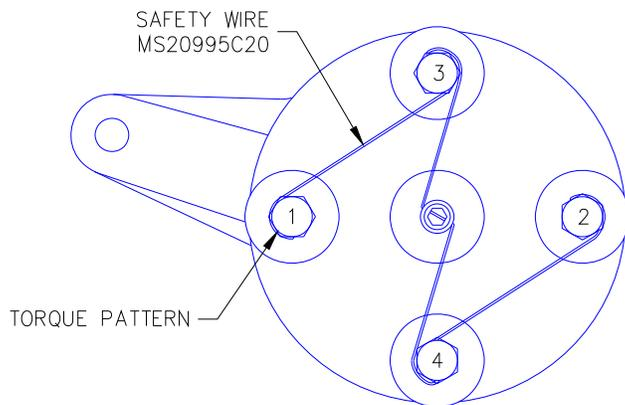

Figure 2
7. Reattach four bolts (AN3H11A) then torque to 12-15 in-lbs and follow the torque pattern on Figure 2.
8. Safety wire using MS20995C20 per MS33540 as shown on Figure 2.